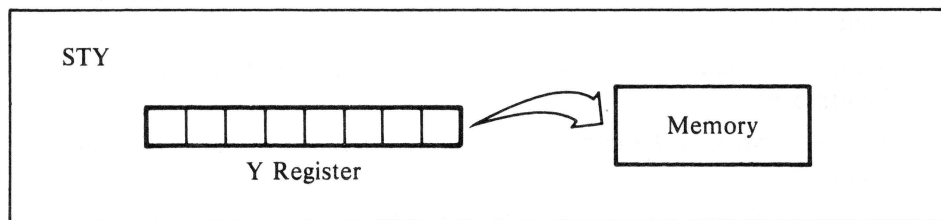

Figure 8-4. Store Y register in memory
- STY — Stores the value in the Y register into a specified memory location (see Figure 8-4).